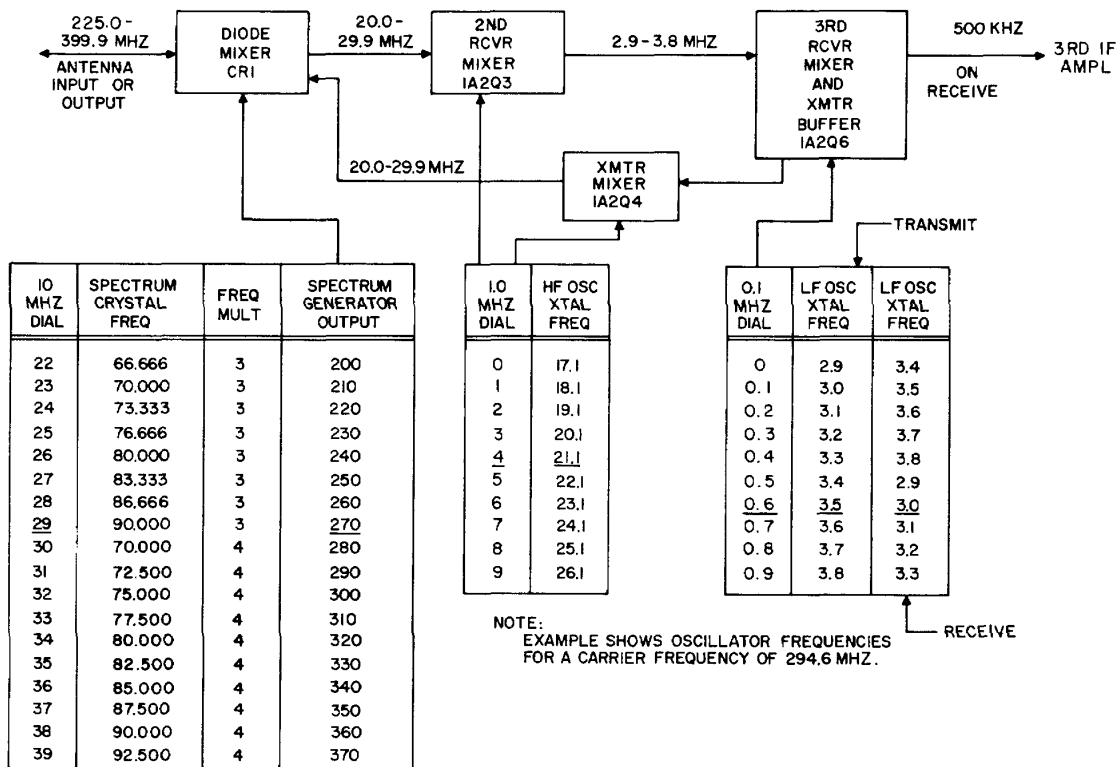

Figure 4-11. Main Receiver and Transmitter, Functional Section, Frequency Scheme
(1) FUNCTIONAL DESCRIPTION, RECEIVE OPERATION. - Three injection frequency signals for RT-695A/PRC-41 are obtained from three crystal controlled oscillators. The first injection signal, 200 to 370 MHz, is obtained from the spectrum generator module, while the second, 17.1- to 26.1-MHz, and third, 2.9- to 3.8-MHz, injection signals are obtained from high- and low-frequency oscillator stages in the 1st and 2nd if amplifier module. Figure 4-11 lists the three injection frequencies for each frequency in the operating range of RT-695A/PRC-41. In receive operation, signals in the 225.0 to 399.9-MHz range are mixed with appropriate spectrum generator module output frequency in the range of 200 to 370 MHz to produce the 20- to 29.9 MHz first if frequency. The first intermediate frequency is then mixed with the appropriate high- frequency oscillator output in the range of 17.1 to 26.1 MHz to provide the second intermediate frequency in the 2.9- to 3.8-MHz range. The second intermediate frequencies are then mixed with the appropriate low-frequency oscillator output in the range of 2.9 to 3.8 MHz to provide the third intermediate frequency of 500 kHz.
(2) FUNCTIONAL DESCRIPTION, TRANSMIT OPERATION. - In transmit operation, the appropriate low- and high- frequency oscillator crystal frequencies are mixed in transmitter mixer 1A2Q4 of 1st and 2nd if amplifier module to produce the intermediate frequencies in the range of 20.0 to 29.9 MHz. This intermediate frequency is then mixed in diode mixer 1A9CR1 with the appropriate spectrum generator module output frequency to produce an output signal in the 225.0- to 399.9-MHz range.
(3) IF FREQUENCY CALCULATION. - The following procedure may be used to find the three injection frequencies from the final transmit or receive operation frequency. Refer to figure 4-11.